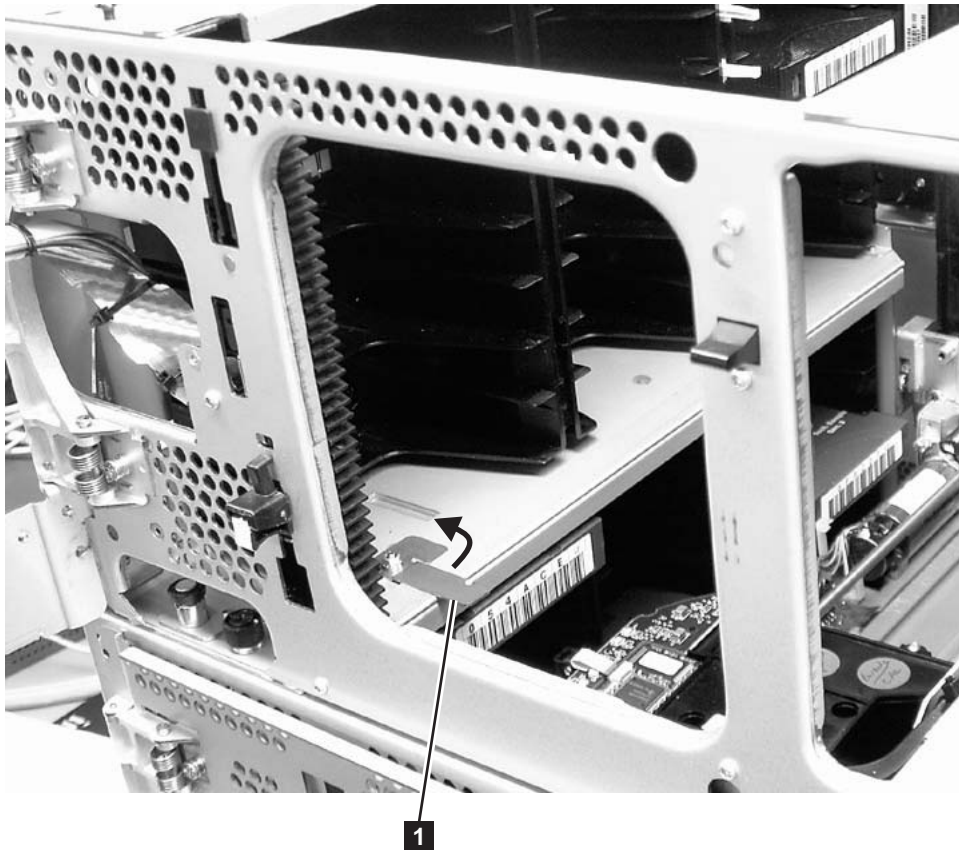

Figure 3-26. Releasing the picker assembly lock mechanism
3. Manually raise the picker assembly while you release the lock mechanism (**1** in Figure 3-26).